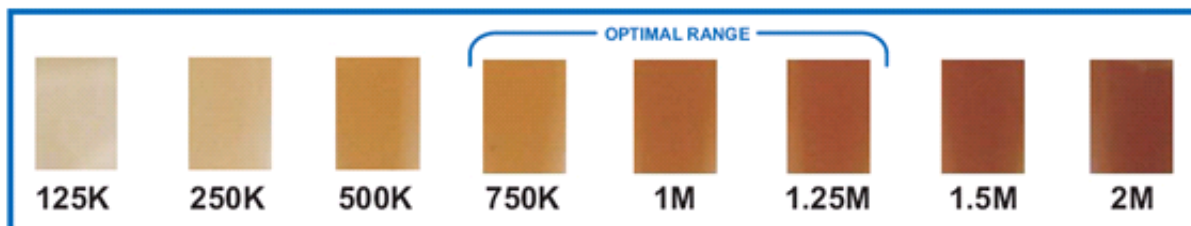
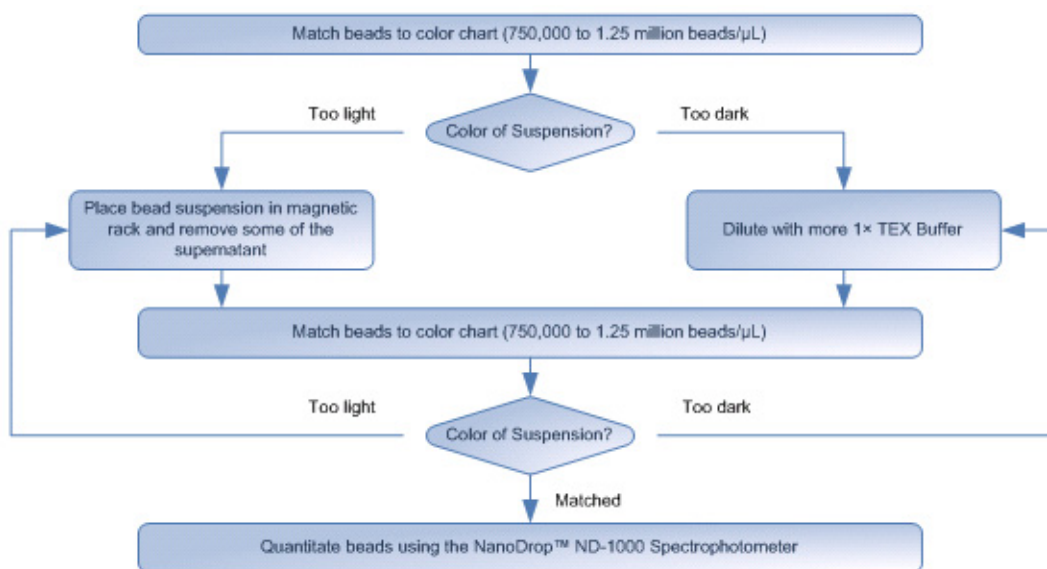

Figure 31 The SOLiD™ Bead Concentration Chart. For best results, use the SOLiD™ Bead Concentration Chart (PN 4415131), supplied separately.
Figure 32 The SOLiD™ Bead Concentration Chart workflow.
3. Use the SOLiD™ Bead Concentration Chart (Applied Biosystems PN 4415131) to estimate the bead concentration of the beads (see Figure 31 on page 53).
4. Adjust the volume of beads so that the color of the bead solution matches a color in the optimal range (750,000 beads/ μL to 1.25 million beads/ μL ; see Figure 31 on page 53 and Figure 32 on page 53).